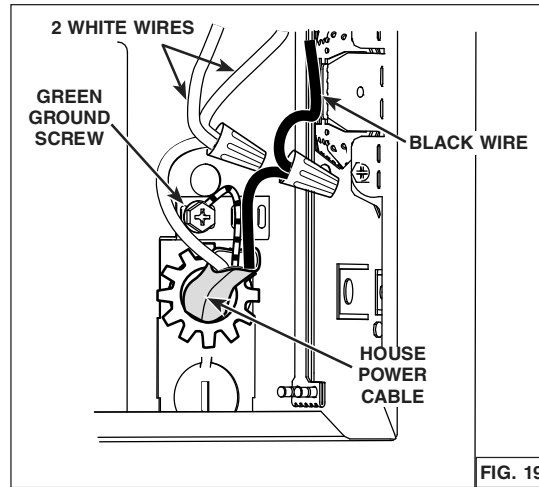

FIG. 19
1. Using appropriate wire nuts (not included), connect house power cable to unit wiring: BLACK to BLACK, WHITE to both WHITE wires and GREEN or bare wire to GREEN ground screw (FIG. 19).